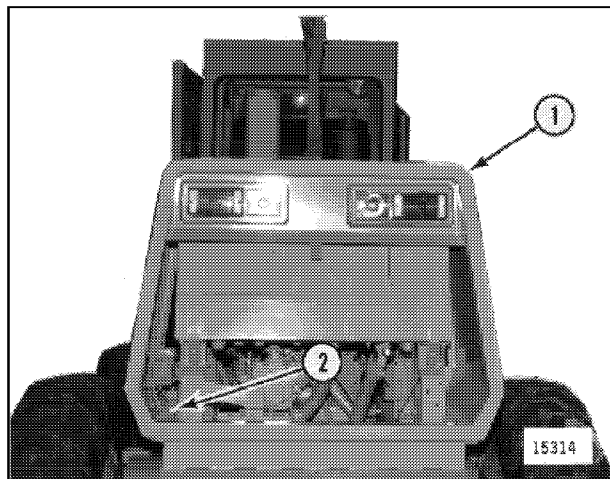

Figure 21
14. Using a suitable lifting device, sling rear cowl (1, Figure 21) through fuel tank and hydraulic oil tank access cover holes.
15. Disconnect electrical connector (2, Figure 21) leading to tail lights, fuel tank sending unit, hydraulic oil filter and hydraulic oil temperature sensor (and other accessories if applicable).